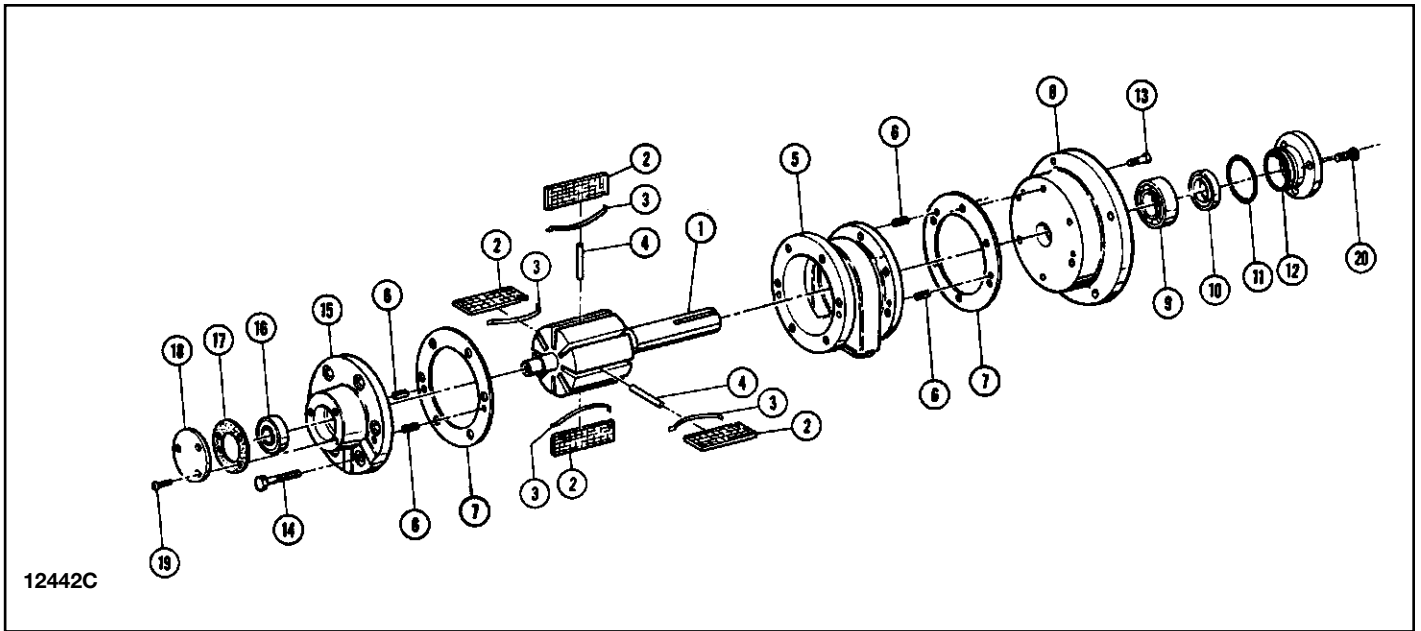

Figure 10. Air Motor
b. Disassembly. (See Figure 10.)
- (1) Remove four hex socket cap screws and then remove motor from gearbox.
- (2) Remove three fillister head screws, end cap and gasket.
- (3) Remove six hex head bolts holding rear end plate to motor cylinder.
- (4) Hold the shaft in a soft jawed vise and using a puller, adapted to fit the three #10-32 bolt centers of the end cap, remove rear end plate and shim gasket. Do not try to pry the end plate from the motor.
- (5) Remove six hex socket cap screws from front end plate.
- (6) Remove motor body exposing the rotor assembly while leaving front end plate mounted on shaft. This relationship must be maintained to eliminate the necessity of adjusting the motor upon reassembly.
- (7) Remove vanes, springs and pins.
c. Reassembly. (See Figure 10.)
- (1) Before assembly, all parts should be thoroughly cleaned and inspected to determine their serviceability. Replace all parts that are worn or damaged.
- (2) Position assembly vertically with rotor facing upward. Insert push pins in rotor. Place shim gasket and motor body on end plate, using dowel pins for positioning. Insert vanes and springs into rotor. Take care that spring tab is positioned in slot of vane.
- (3) Install six hex socket head screws through front end plate.
- (4) Place shim gasket and rear plate on body, using dowel pins for positioning. Press rear bearing onto rotor shaft by pressing on inner race. Bearing outer race should not be bottomed on rear end plate. Shaft must not move laterally in front bearing.
- (5) Install six hex head bolts through rear end plate.
- (6) Replace end cap and gasket and install three fillister screws.
- (7) Rotor and shaft must turn freely in body.
- (8) Position motor in proper orientation on bridge gearbox with key in place and fasten with four hex socket head screws.